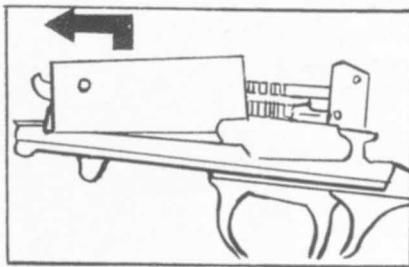

Fig. 8
2. It requires some skill and practice to disassemble the rifle further but should the need arise proceed as follows: Release the firing pin by pulling the trigger. Draw the breechblock back out $\frac{1}{4}$ of an inch, then lift up on the forward end until the finger piece clears the trigger guard plate (Fig. 8). Allow the breechblock to travel forward slowly, holding the recoil spring between thumb and fingers to prevent its escape.